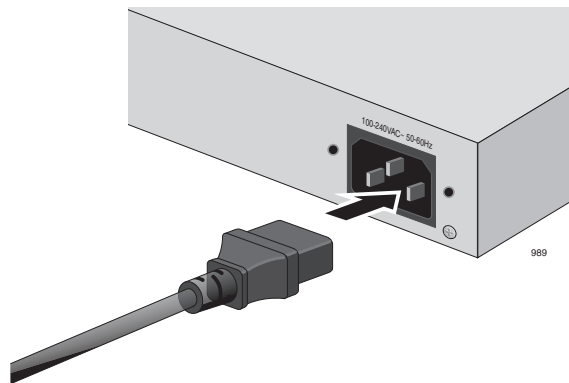

Figure 9. Connecting the AC Power Connector to Switch
1. Apply AC power to the switch by plugging the power cord into the AC power connector on the back panel of the unit, as shown in Figure 9.